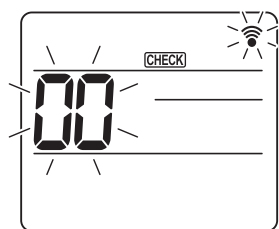
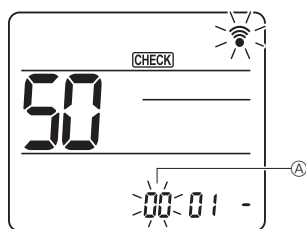
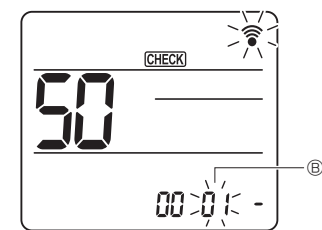
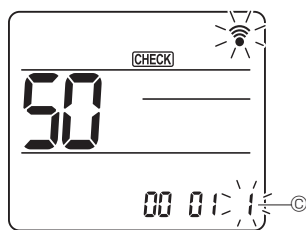

Fig. 7-16
Fig. 7-17
Fig. 7-18
Fig. 7-19
#### 7.4.2. By wireless remote controller (Fig. 7-16, Fig. 7-17, Fig. 7-18, Fig. 7-19)
(Start this operation from the status of remote controller display turned off.) [CHECK] is lighted and "00" blinks. (Fig. 7-16)
- ② Setting the unit number
Press the [DOWN] button to set unit number ①. (Fig. 7-17)
- ③ Select a mode
Press the [DOWN] button to set Mode number ②. (Fig. 7-18)
- ④ Selecting the setting number
Use the [DOWN] button to change the Setting number ③. (Fig. 7-19)